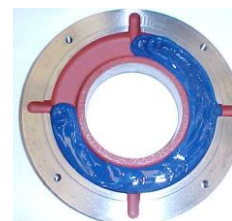

Figure 7.3: Outer bearing cap
- Fill up to $\frac{3}{4}$ of the inner and outer bearing cap deposits with the recommended grease (Figure 7.3) and lubricate the rolling bearing with enough grease before assembling it;
When the bearing is opened, inject the new grease through the grease nipple to expel the old grease found in the grease inlet tube, and apply the new grease in the rolling bearing, to the inner and outer rings, filling $\frac{3}{4}$ of the empty spaces, as shown in Figure 7.3. In case of double bearings (ball bearing + roller bearing), also fill $\frac{3}{4}$ of the empty spaces between the intermediate rings; Never clean the rolling bearing with cotton-based cloths because they leave some lint, working as solid particles.